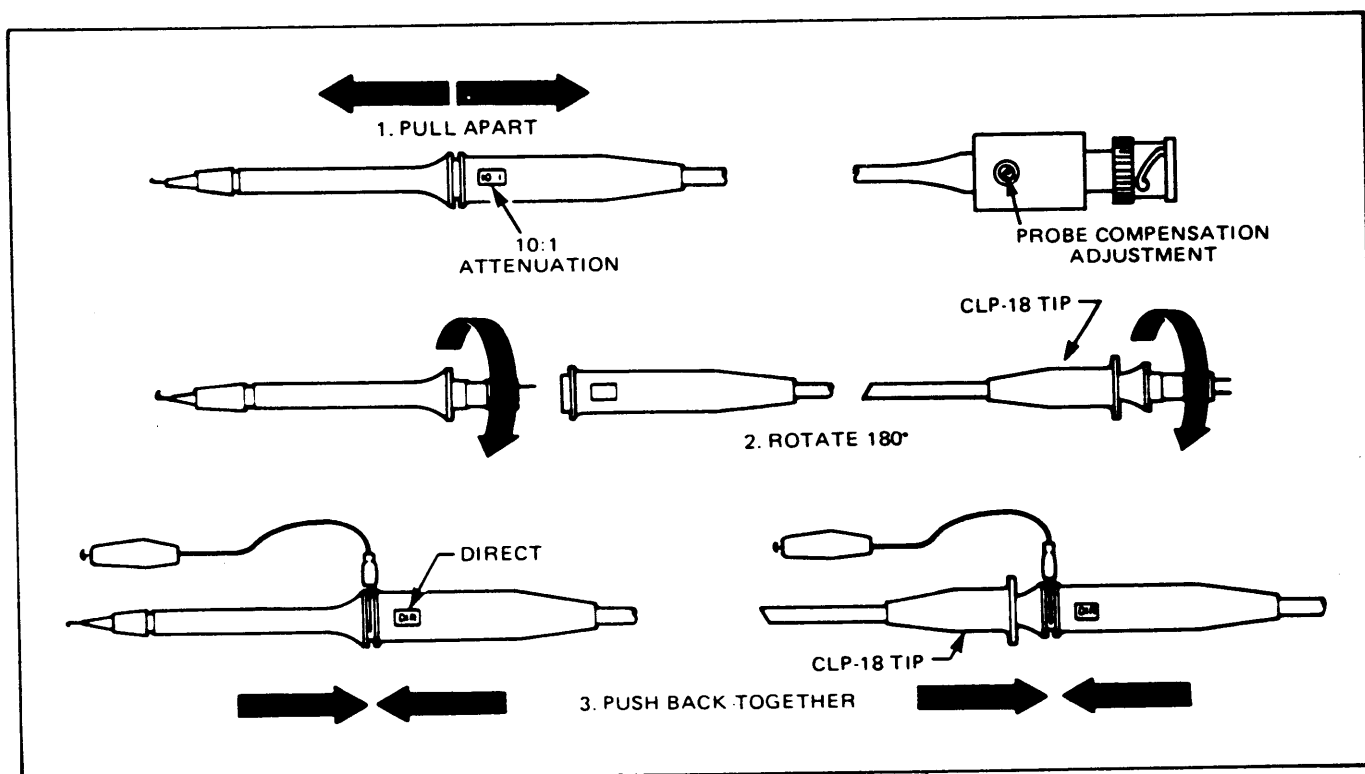

Fig. 3. Probe details.
38. Feet (4). Support oscilloscope when unit is in vertical position (face up); and serve as storage wrap anchors for line cord.
43. Probe (two required, see Fig. 3). The **B & K-Precision** Model PR-36 probes have been designed for use with this oscilloscope. These are combination 10:1/direct probes designed for oscilloscopes with input impedance of 1 megohm, shunted by 22 pF ( $\pm 3$ ) and capable of operation up to and beyond 30 MHz. Equivalent oscilloscope probes may be used.
1. Perform the steps of the "Initial Starting Procedure" with the MODE switch (22) in the CH B position. Then connect the probe cable to the CH B INPUT jack (18). The following instructions assume the use of the B & K-Precision Model PR-36 combination probes.
2. For all except low-amplitude waveforms, the probes are set for 10:1 attenuation. For low-amplitude waveforms (below 50 mV peak-to-peak), set the probe for DIRECT. See Fig. 3 for changing the probes from 10:1 to DIRECT, or vice versa. The probe has a 10 megohm input impedance with only 18 pF shunt capacitance in the 10:1 position and 1 megohm with 120 pF shunt capacitance in the DIRECT position. The higher input impedance (low-capacity position) should be used when possible, to decrease circuit loading.
3. Set CH B DC-GND-AC switch (19) to AC for measuring only the AC component (this is the normal position for most measurements and must be used if the point being measured includes a large DC component). Use the DC position for measuring both the AC component and the DC reference, and any time a very low frequency waveform (below 10 Hz) is to be observed. The GND position is required only when a zero-signal ground reference is required, such as for DC voltage readings.